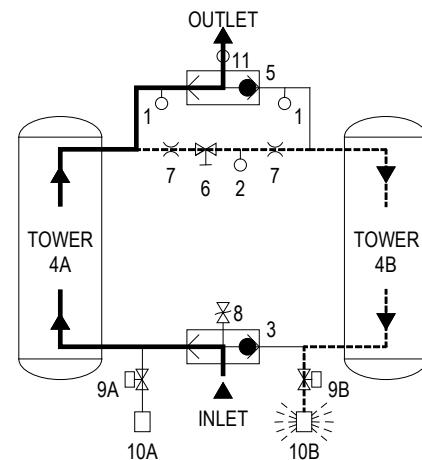

FIGURE 3-1a
(Refer to Fig. 3-1a.) Compressed air flows through inlet shuttle valve (3) to tower (4A) where the air is dried. After the air is dried it flows through outlet shuttle valve (5) and then to the dryer outlet. A portion of the dry air, the purge stream, branches off from the main air stream prior to the outlet. The purge stream flow rate is controlled by the adjustable purge rate valve (6) and the two purge orifices (7).